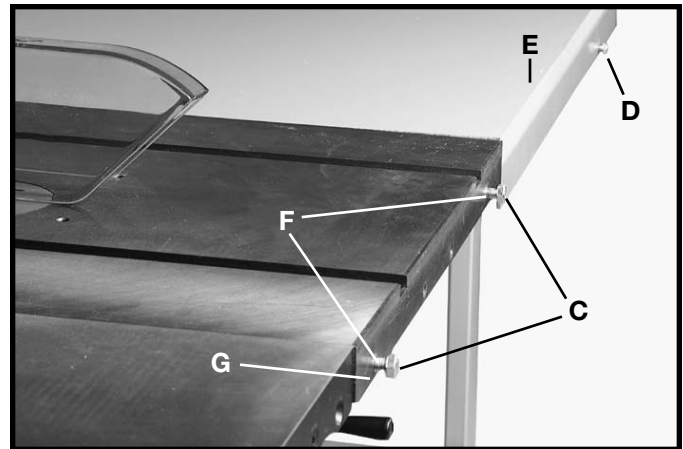

Fig. 60
2. Insert two 3/8-24 x 1 hex head bolts, flat washers and hex nuts (C) Fig. 60, into the two holes (F) Fig. 60 in the front of saw table (G). Screw bolts into nuts slightly leaving bolt head extended approximately 1/2". **Note:** Make sure to use only the two holes shown at (F).
3. Insert one 1/4-20 x 3/4 hex head bolt, flat washer and hex nut (D) Fig. 60, into the front support of the extension table (E) Fig. 60. Screw bolt into nut slightly leaving bolt head extended approximately 1/4".